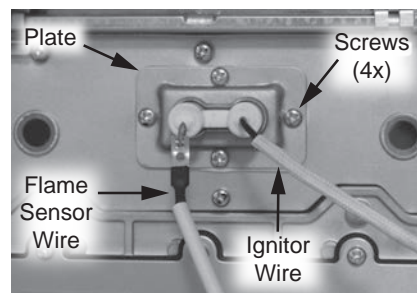

Figure 117 - Ignitor rod and flame sensor rod assembly
**5** Disconnect flame sensor wire from the assembly. See Figure 117.